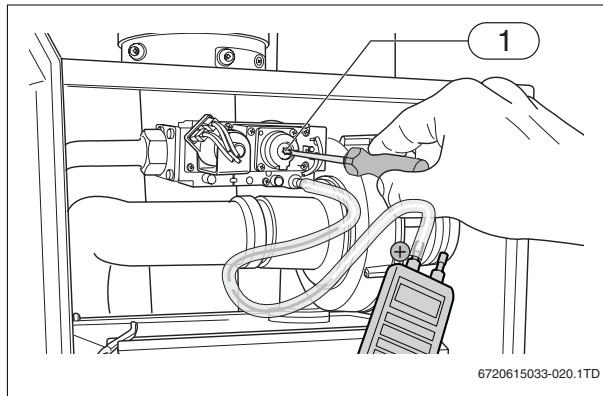

Fig. 16 Setting the gas/air ratio
- ▶ If the gas/air ratio is not correct it can be adjusted using the adjustment screw (→ fig. 16, [1]). The adjustment screw is located behind the cover screw.